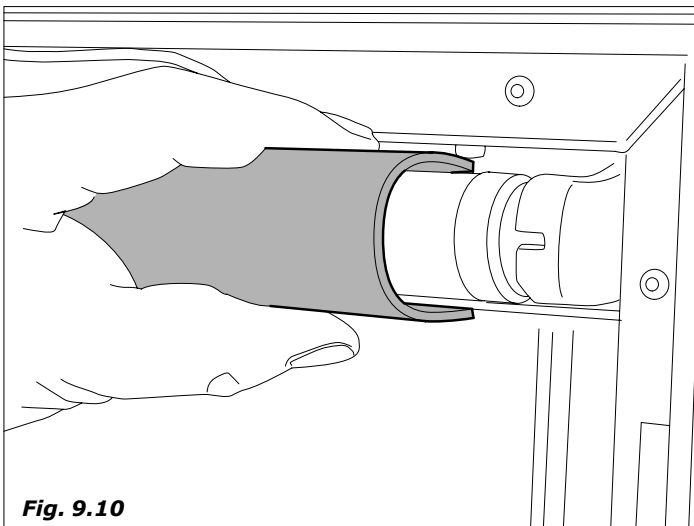

Fig. 9.10
- remove the light guard (Fig. 9.10)